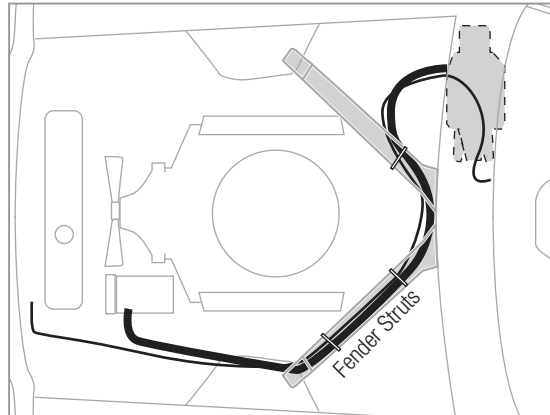

FIGURE 37
**STEP NINE:** Connecting the wires from the pressure switch will be done as follows, connect one wire to the connection on the compressor, and the other wire will be routed along with the liquid hose along the underside of the fender supports and connected to the blue lead you put thru the firewall during the interior installation. We've included a bullet and slice connector to make these connections, use a crimp tool to secure these properly (for attachment route, see figure 37).